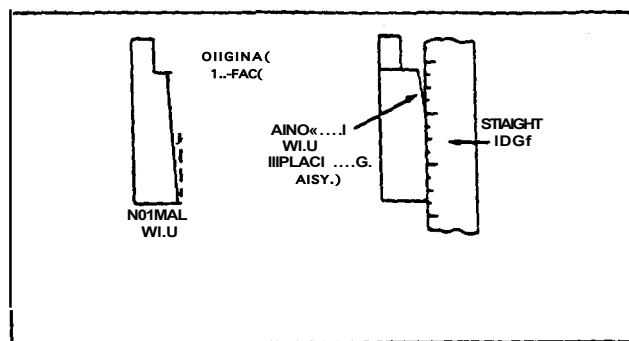

Fig. 5
- a. Check angle of wear pattern as shown in figure 5 with a straight edge.